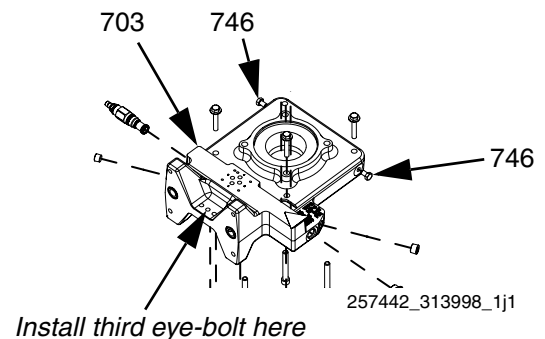

FIG. 10
5. Disconnect heat exchanger inlet hose and fitting from elbow fitting (617). Disconnect heat exchanger outlet hose and fitting from elbow fitting (025).
6. Remove the two bolts (746) from the fluid housing (703) and replace each with a strong 5/16-18 thread eye-bolt. Install a third strong 5/16-18 eye-bolt as indicated. See FIG. 10. See FIG. 8 on page 30 for full hydraulic power pack view.
3. Align the holes with the tank then install finger-tight the four bolts (604) and washers (603) securing the tank to the electrical enclosure. Torque to 10 ft-lb (14 N•m).
5. Remove eye-bolts. Install original bolts (746) into fluid housing (703). See FIG. 10.
8. Connect heat exchanger inlet hose and fitting to elbow fitting (617). Connect heat exchanger outlet hose and fitting to elbow fitting located on rear right face of tank. See **Power Pack Module** on page 50.